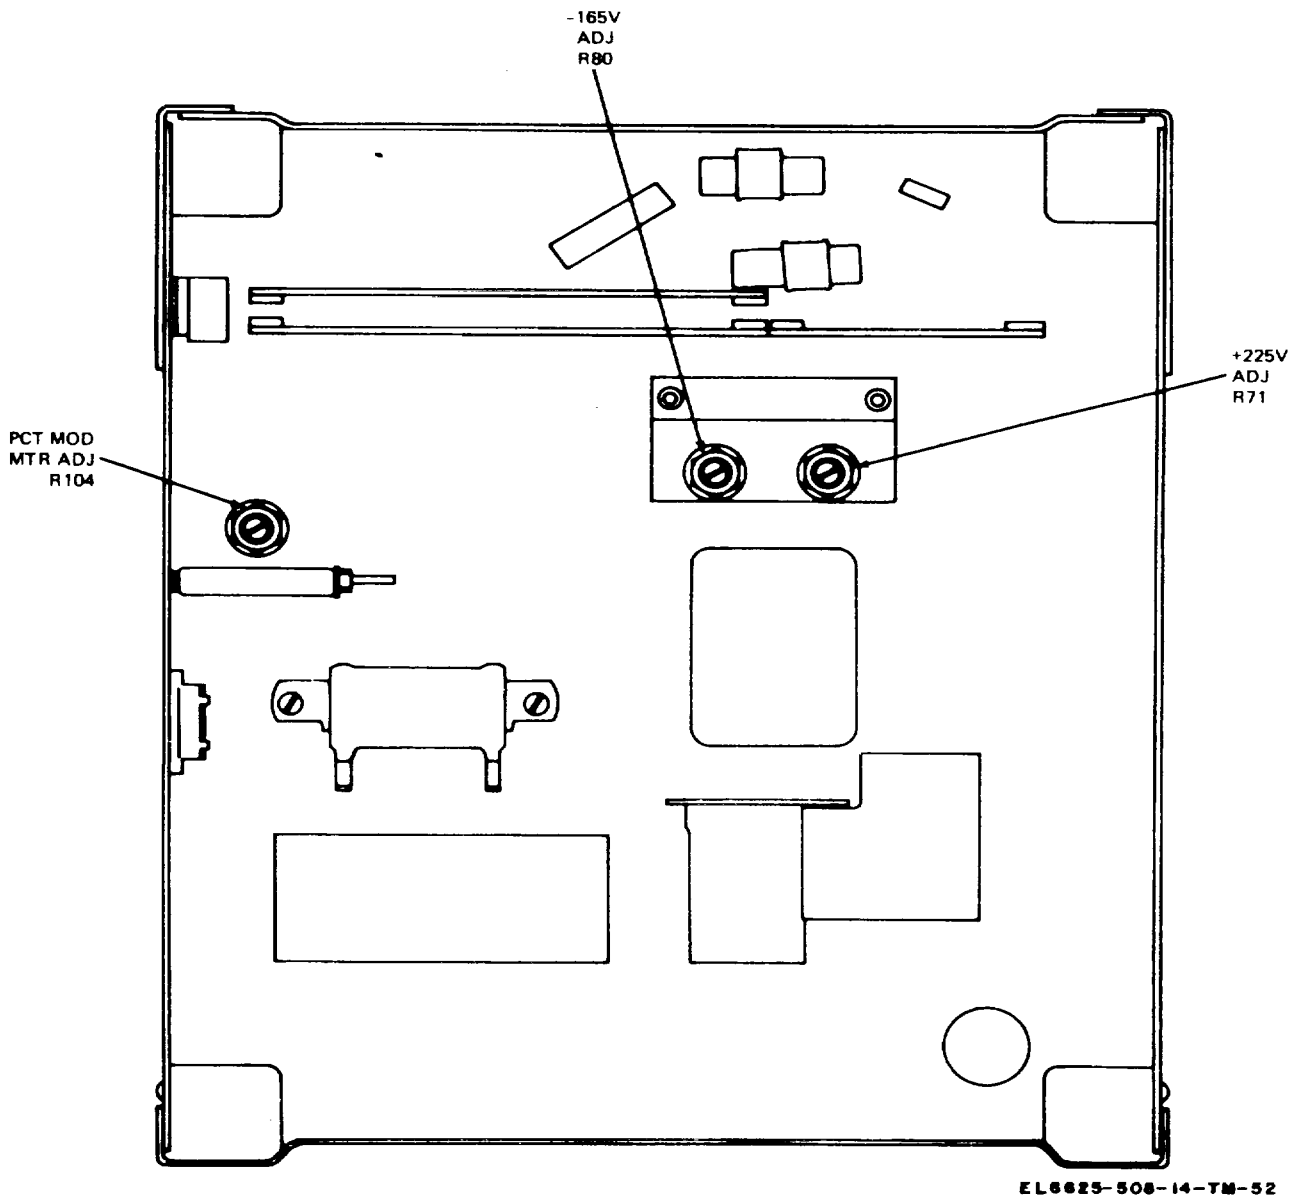

Figure 6-23. Percent modulation meter and power supply, adjustment location
(4) Refer to figures 6-8 and 5-19. Connect ME-26A/U to pin 6 of V13. Adjust + 225V ADJ, R71, shown in figure 6-23 to obtain an indication of + 225 volts dc.
(4) Set A VOLTS/DIV control at .2; TIME/DIV .2 millisecond, and trigger source at INT.
(5) Adjust oscilloscope's vertical position control so that signal is at center of screen.
(6) Adjust signal generator's attenuator control until a 4 cm peak-to-peak indication is displayed on oscilloscope; then adjust MODULATION control until a sine wave is displayed. Adjust oscilloscope's trigger
(7) Obtain a 6 cm peak to peak display on oscilloscope by adjusting signal generator's MODULATION control.
(8) Refer to figure 6-23. Adjust R104, PCT MOD MTR ADJ, until an indication of 50 is displayed on signal generator's PERCENT MODULATION meter.
(9) Adjust signal generator's MODULATION control to obtain a 7.2 cm Peak to Peak display on oscilloscope. The signal generator's PERCENT MODULA-